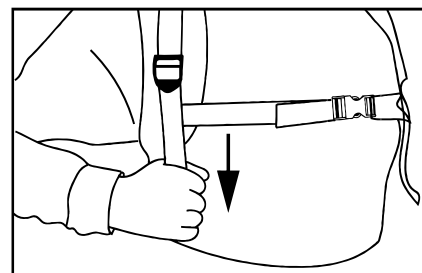

FIGURE 12
6.1.2 Pull the ends of the backpack straps downward to tighten. **FIGURE 12.**